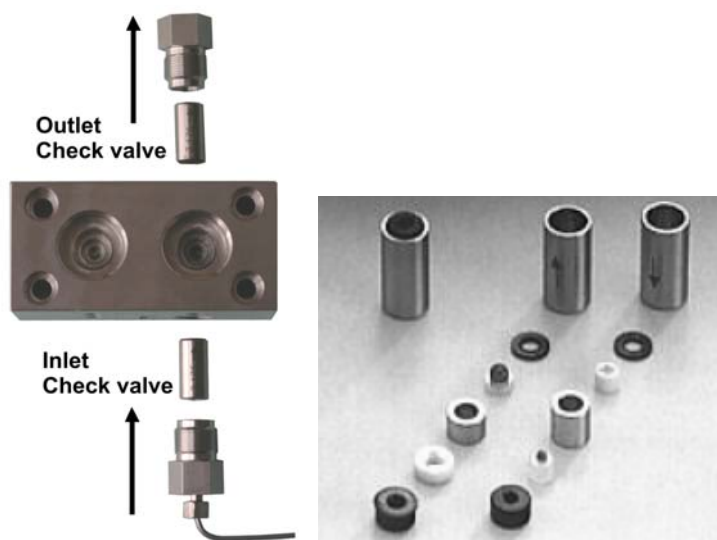

Fig. 6. Exploded view of pump head and check valves. Note the arrows on the check valves should point the direction as indicated.
1. Remove the check valve cartridges from the pump head (Figure 6).